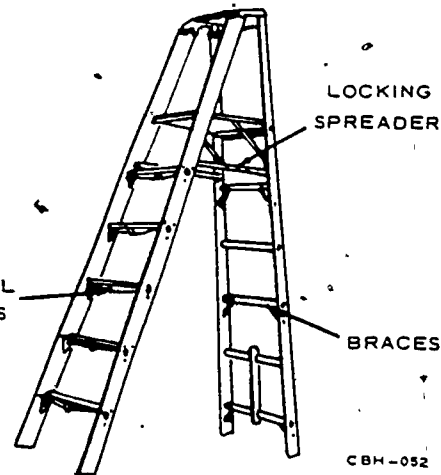

Figure 2-9. A step ladder
**Stepladder.** A stepladder is a type of ladder that is self-supporting. Figure 2-9 shows a sturdy stepladder. This ladder can be used effectively as a portable work platform, because it has wide rungs to make it easier to stand on for long periods of time.